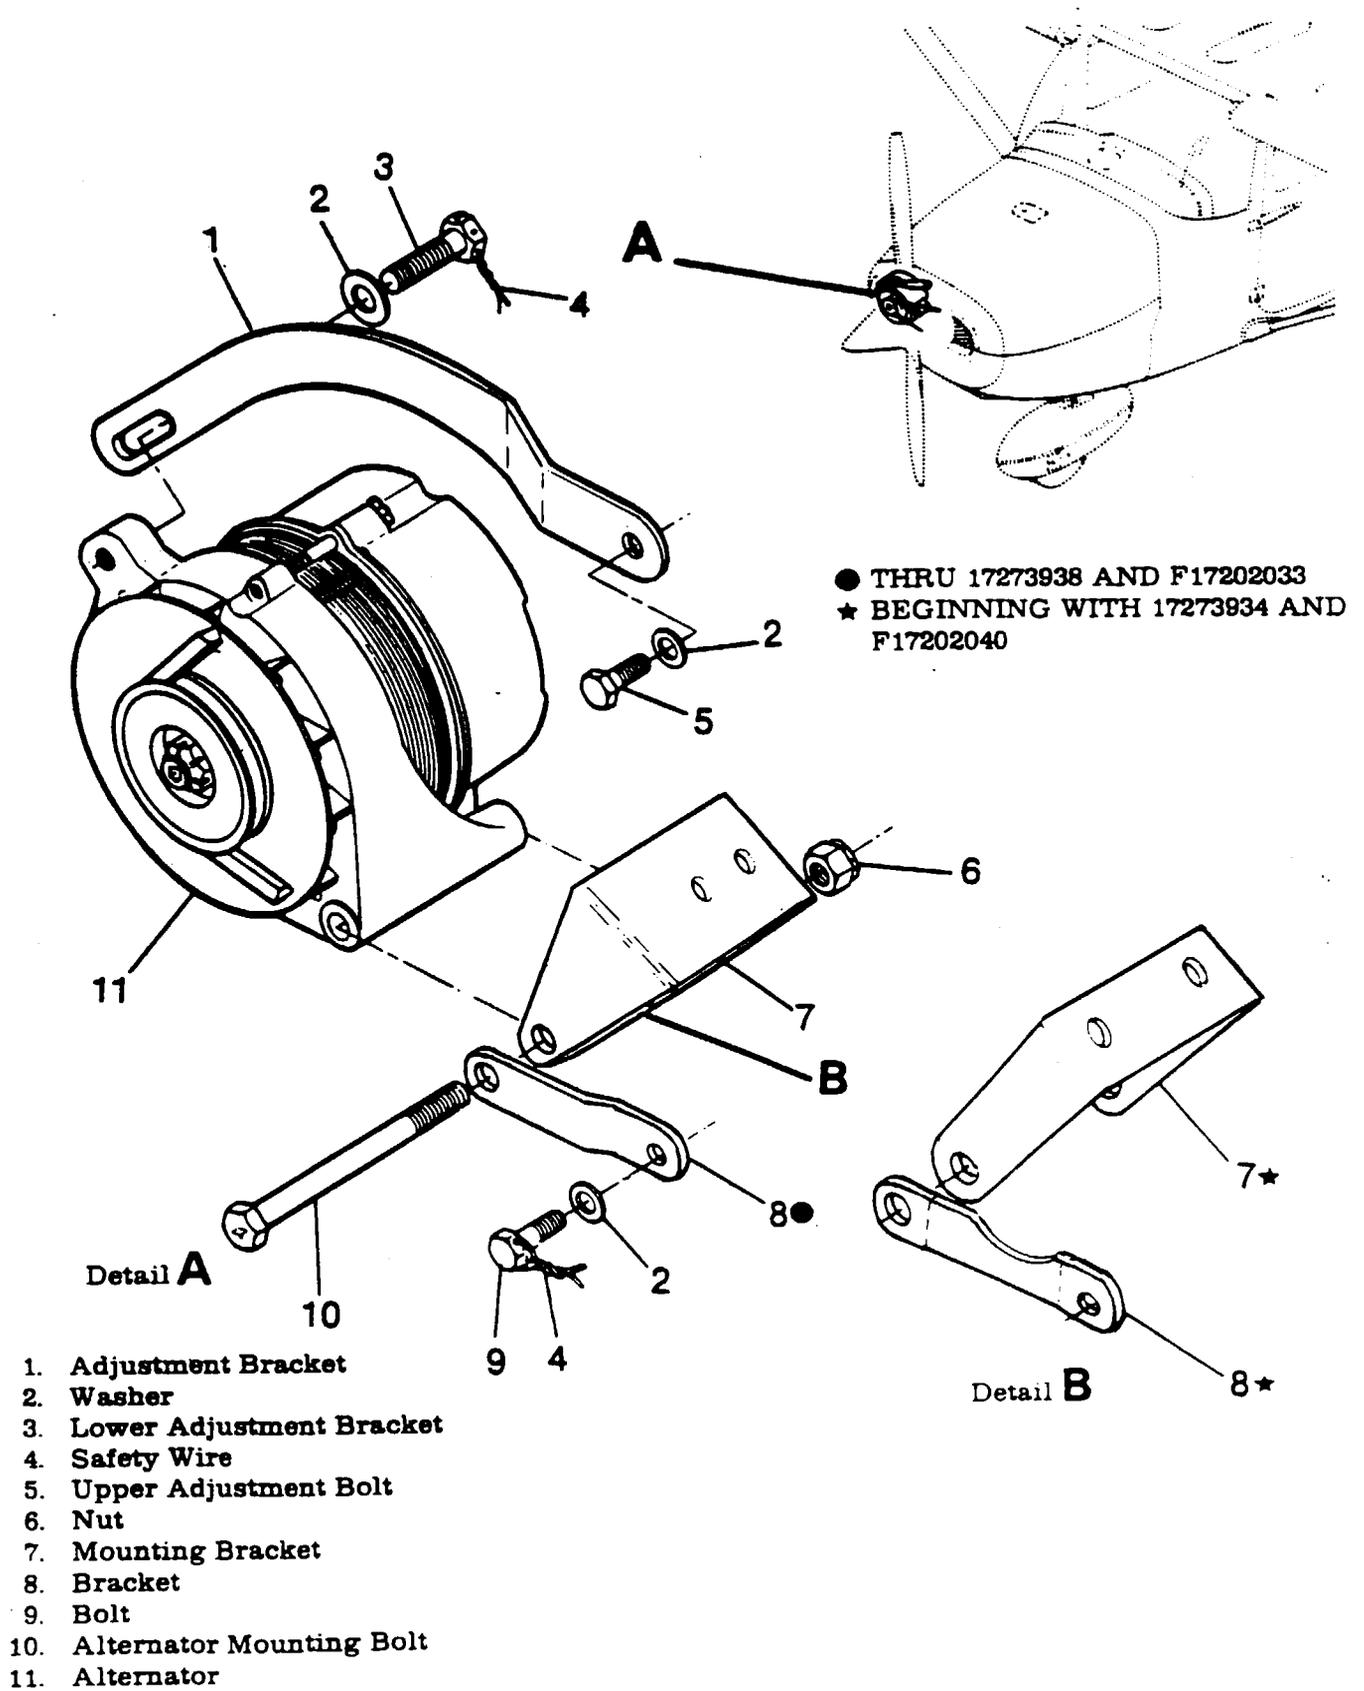

Figure 16-4. Belt-Driven Alternator Installation
- 16-38. **REMOVAL AND INSTALLATION.** (See figure 16-4.)